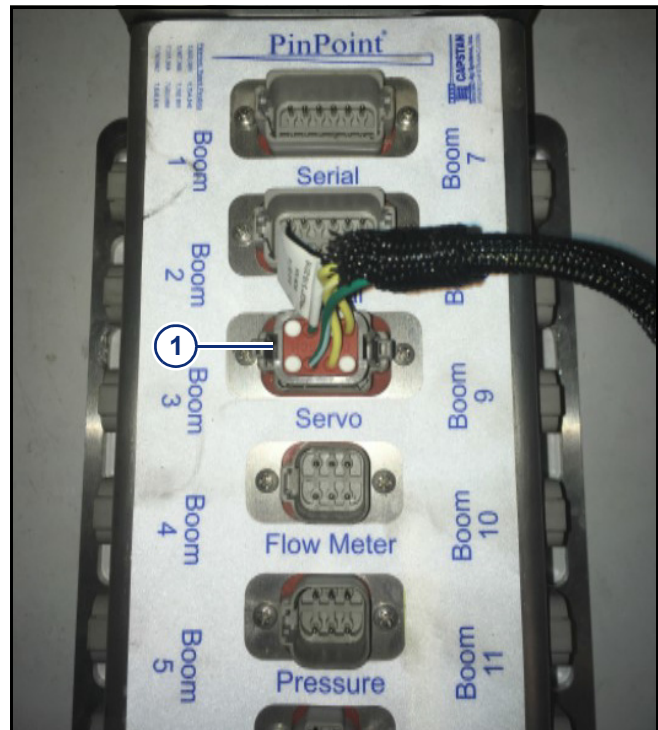

Figure 3
5. **[Figure 3]** - Install the 8-pin connection (1) in the Servo port on the Gateway hub.